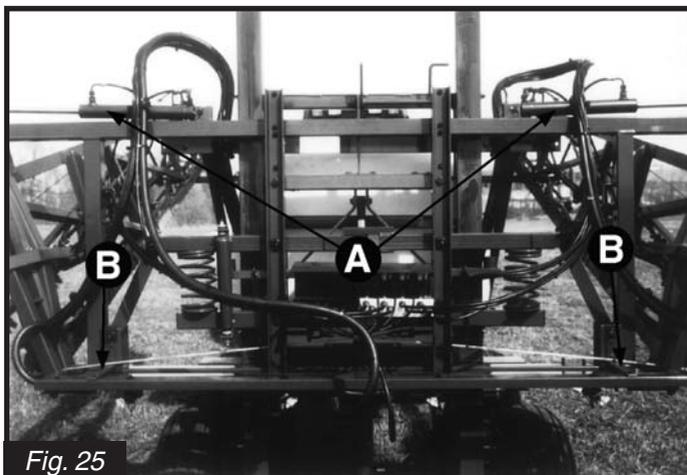

Fig. 25
3. Check that the tilt cylinders (**A**) (Fig. 25) are *completely* extended. Adjust if necessary (HZ Only).
4. Check that the cables are routed over the center section nozzle brackets (**B**) (Fig. 25).